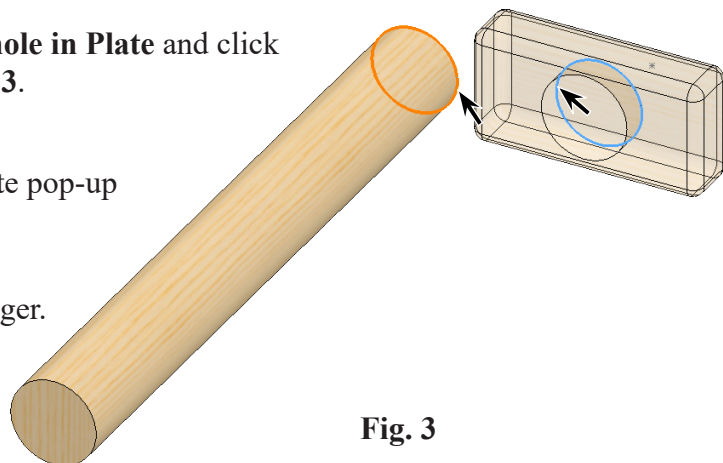

Fig. 3
Step 2. Click **bottom cylindrical edge of hole in Plate** and click **rear cylindrical edge of Rod**, **Fig. 3**.